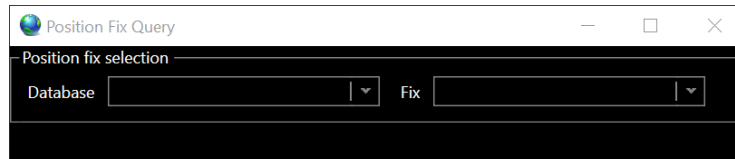

FIGURE 14-80 POSITION FIX QUERY DIALOG
1. Select Query from the Data ribbon or Explorer, this opens the Position Fix Query dialog, see Figure 14-80